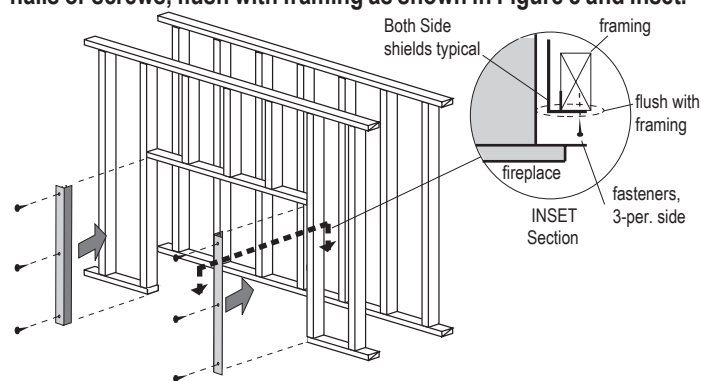

Figure 8. Combustible Framing Side Heat Shield L52FS01x2, (two 2-pcs).
**NOTE:** The shields must be installed as shown in Figures 8 - 8b.
**Step 1.** Fasten the two Side shield's (L52FS01x2) first, and ensure they are fastened in place as shown. These are installed with the Wide flanges facing the center of the fireplace opening, and the shallow flange toward inside of room. These are also fastened with nails or screws, flush with framing as shown in Figure 8 and Inset.